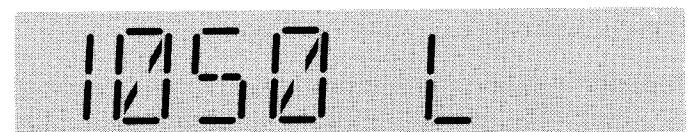

Figure 4-9 Typical Existing Description Example
Step 6: Use the **Select** pushbutton to enter the valid password. Once the password is accepted, the far left character in the **Description Display** begins blinking (Figure 4-9). The blinking indicates which character is able to be changed. The description can be up to 8 characters in length. The choice of characters can be a blank space, a number from 0 to 9, or a letter from A to Z.